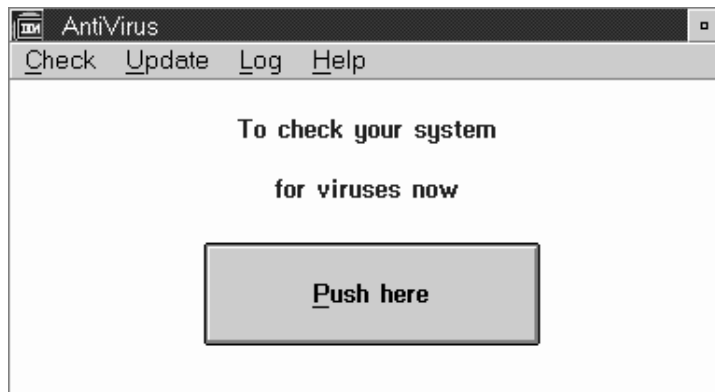

Figure 116. AntiVirus window
1. Start the IBM AntiVirus program. The AntiVirus window is displayed, as shown in Figure 116.
5. Click on the **OK** push button. The AntiVirus window is displayed again, as shown on Figure 116 on page 196.